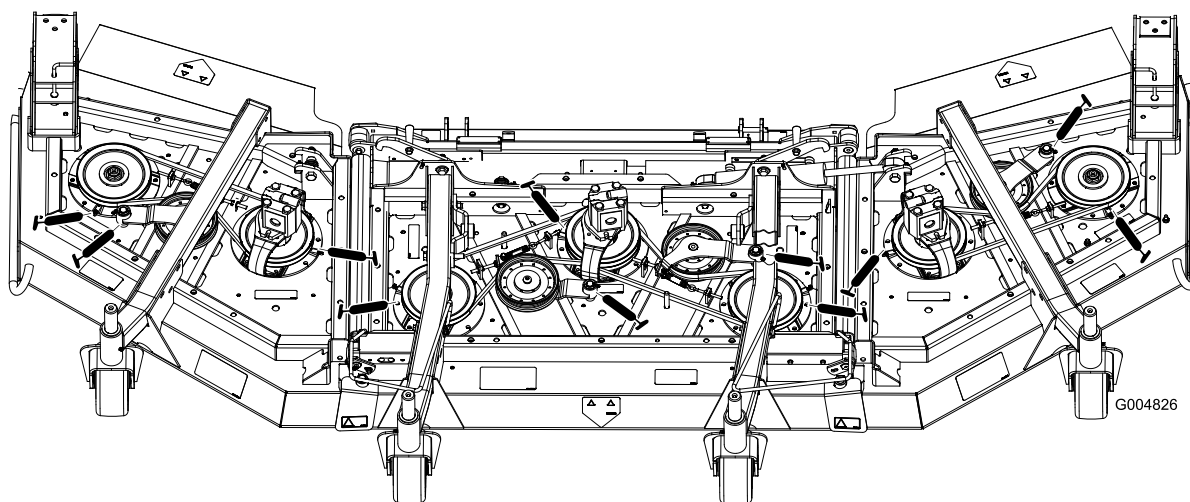

Figure 66
- Spindle shaft bearings (3) (located under the pulley) (Figure 66)
- Idler arm pivot bushings (2) (Figure 66)